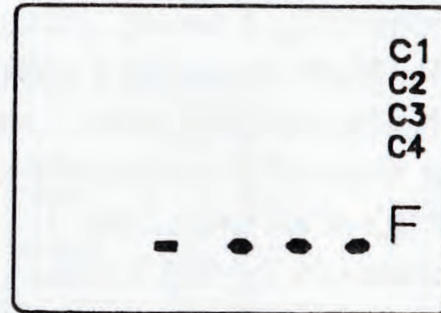

FIG 15
1. Power on the meter. When the RH reading and the temperature reading are displayed (Fig. 5). Press PRG to switch from the measuring mode to alarm check mode (Fig. 15 with C1 flashing).
1. In measuring mode, press PRG key. The LCD will display the indicators C1, C2, C3, C4 plus XY.Z with C1 flashing first (Fig. 15).